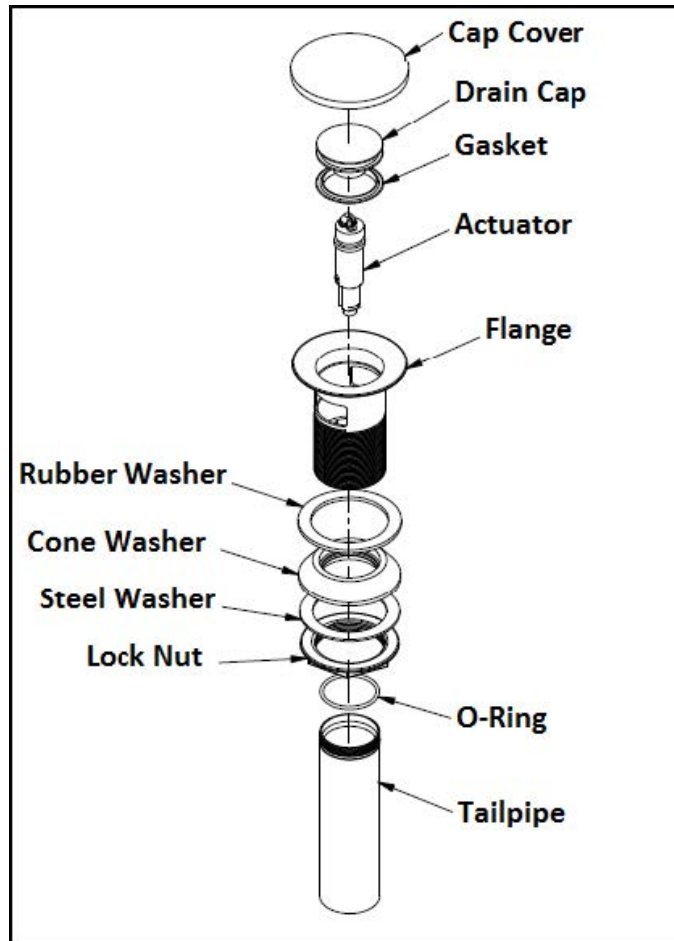

Figure 3
3. Remove FLANGE, RUBBER WASHER, STEEL WASHER, and discard drain CAP COVER from drain assembly. Place RUBBER WASHER into FLANGE. Then, place FLANGE through the sink hole (Clear silicone may be used in place of RUBBER WASHER). From underside of sink, install CONE WASHER, STEEL WASHER, and LOCK NUT into FLANGE. Thread LOCK NUT firmly. Thread TAILPIPE to FLANGE assembly and assemble TAILPIPE to existing P-Trap. **See Figure 3.**